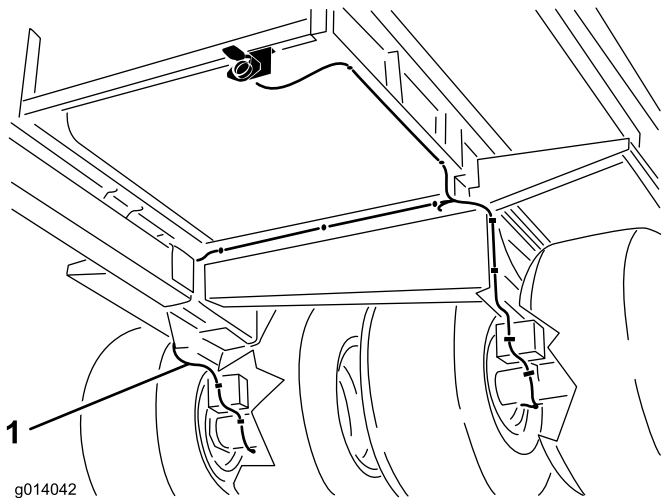

Figure 7
35. Secure the harness by plugging the harness clips into the frame mounting holes (Figure 7).
Note: If the mounting holes for the harness clips are not on the machine, drill (9) .266 in diameter holes at the harness clip locations shown in Figure 7.